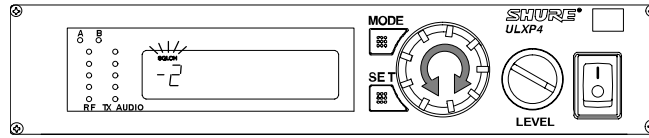

FIGURE 42
2. Rotate the control knob. The new Squelch setting will appear on the display, as shown in Figure 42.